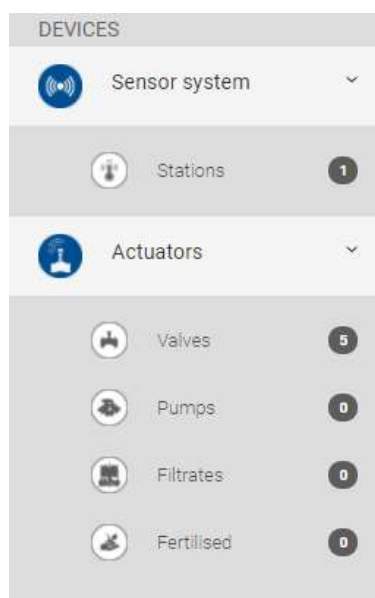

Figure 19 Select actuators/valves
- Select the device you want to eliminate in the left panel (see Figure 19).